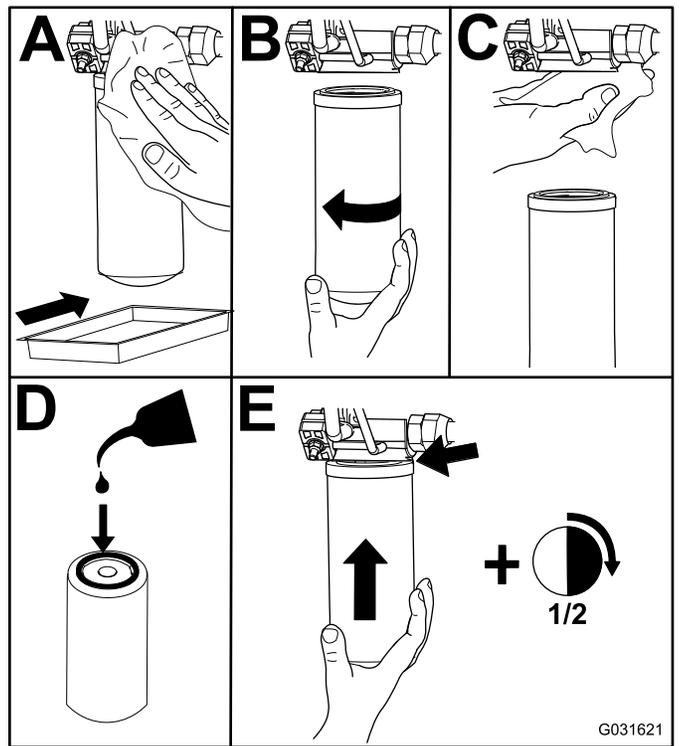

Figure 105
2. Replace the hydraulic filters (Figure 105).